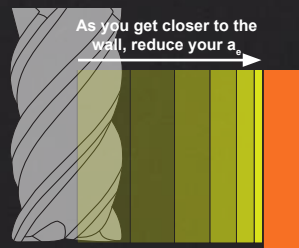

Fig. 5 - Radial DOC ( $a_e$ ) Strategy
- **Radially** - Figure 5 shows the variable radial depth-of-cut method, which is essential when there is nothing on the other side of the wall. As we approach the wall, the cutting pressure decreases proportionally to the decreasing radial depth of the cut ( $a_e$ ). Our objective is to reduce the pressure as we approach the wall, but we can compensate by increasing the feed rate due to chip thinning (refer to page 88 for further details). There will undoubtedly be a balance here, but at least you now have some additional knowledge.